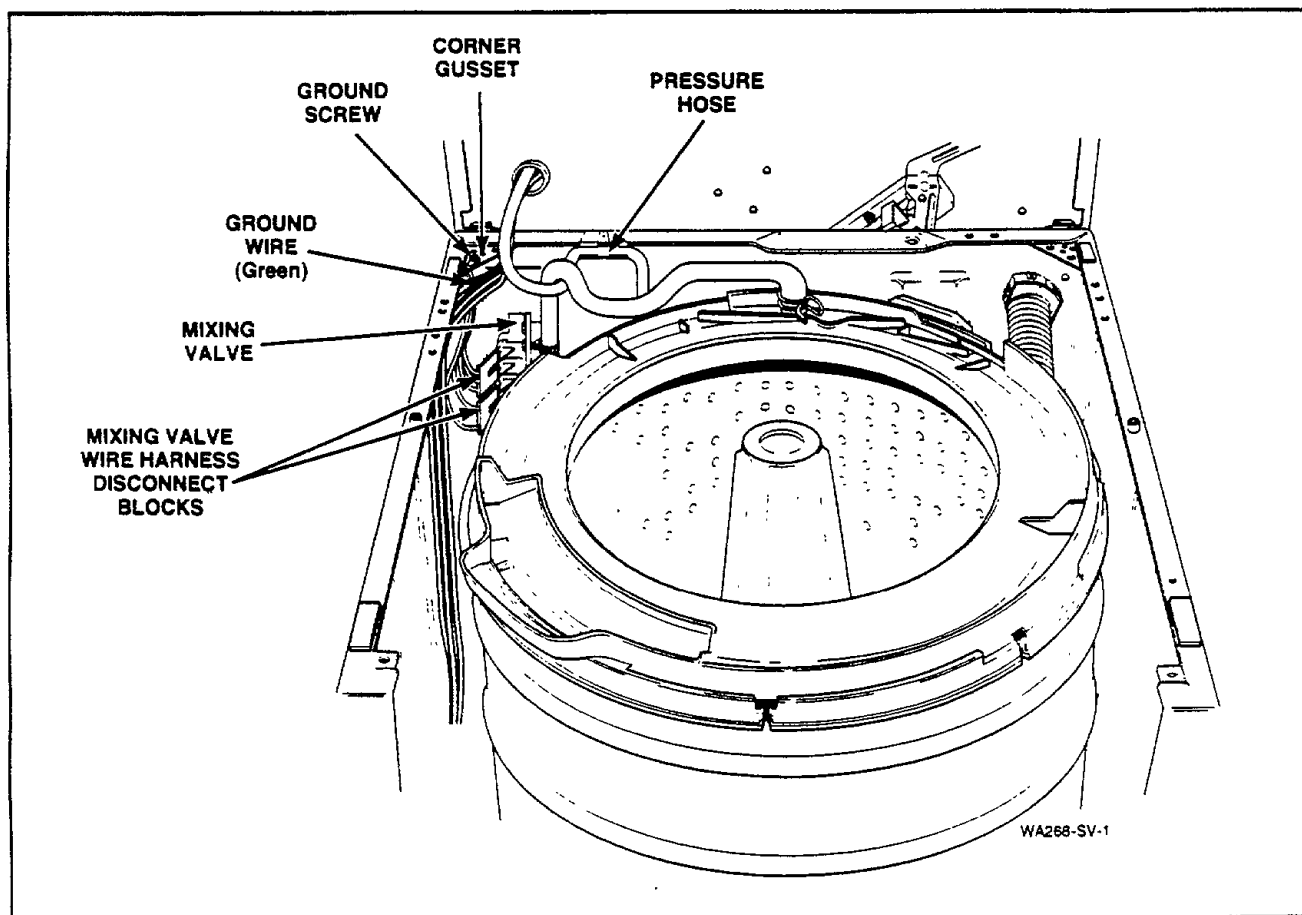

Figure 39
- Pull top forward far enough to permit disconnecting green ground wires from top left rear corner of washer cabinet, *Figure 39*.
- Disconnect wires from mixing valve solenoids at the quick disconnect blocks, *Figure 39*.